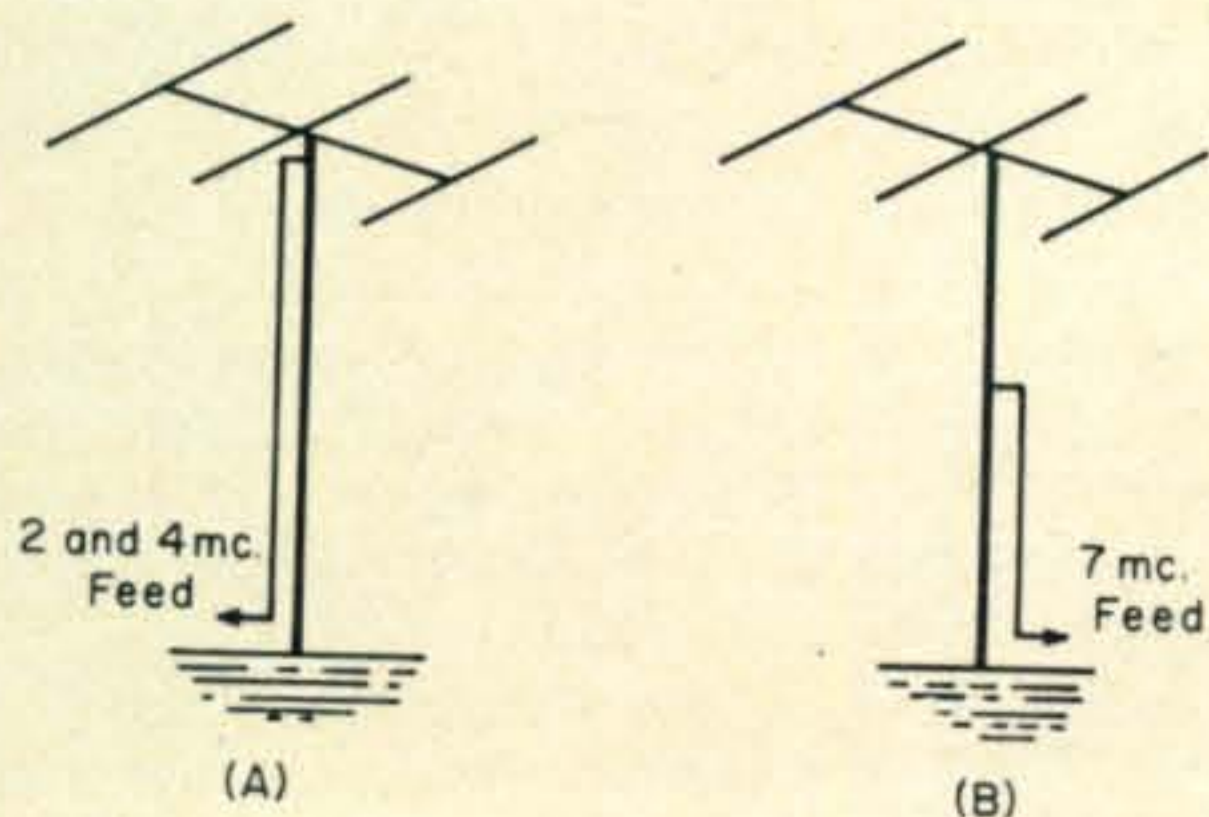

Fig. 23—Feed systems used in the Mark IV DX Antenna.
Another possible way of using the folded unipole feed principle for a six-band antenna was described in the article on the Mark IV DX Antenna.³⁵ In this one, which is still in use, the 40 foot tower is used as a top-loaded vertical radiator on 2, 4 and 7 mc, and the tri-band beam on top of it is the top-loading. On 2 and 4 mc the tower is fed as a true folded unipole, with the feed line going to the top of the tower. On 7 mc this tap point is too high, and therefore a feed rod is connected to the side of the tower at the 20 foot level. The schematics of these two feed arrangements for 2, 4 and 7 mc are shown in figs. 23 (A) and 23 (B) respectively. This antenna is ideal for the amateur who has a beam on a tower of reasonable height in his backyard, and who would like to get on 2, 4 or 7 mc without putting up wire antennas.